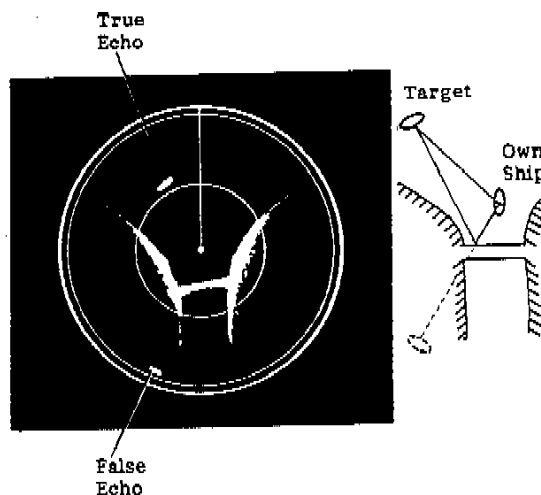

Fig.35 Indirect Echoes
Indirect echoes may be returned from either a passing ship or returned from a reflecting surface on your own ship, for example, a stack. In both cases, the echo will return from a legitimate contact to the antenna by the same indirect path. The echo will appear on the same bearing as the direct echo, but at the same range as the reflected surface. Fig.35 illustrates the effect of an indirect echo. Indirect echoes may be recognized as follows. (1) they usually occur in a shadow sector; (2) they appear on the bearing of the obstruction but at the range of the legitimate contact; (3) when plotted, their movements are usually abnormal, and (4) their shapes may indicate that they are not direct echoes.